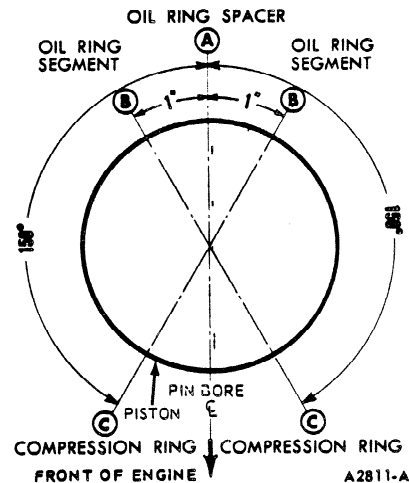
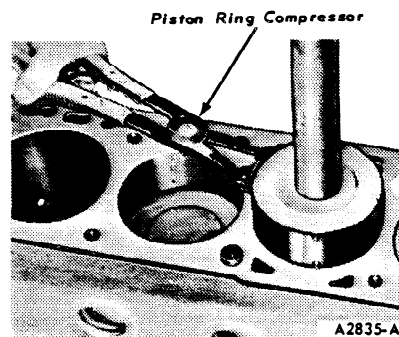

FIG. 55 Piston Ring Gap Spacing
FIG. 56 Piston Installation
4. Make sure the ring gaps are properly spaced around the circumference of the piston (Figure 55). Oil the rings, then install a piston ring compressor on the piston. Make sure that the indentation in the head of the piston is toward the front, then push the piston into its bore with the handle end of a hammer until it is slightly below the top of the cylinder (Figure 56). Be sure to guide the connecting rods to avoid damaging the crankshaft journals.